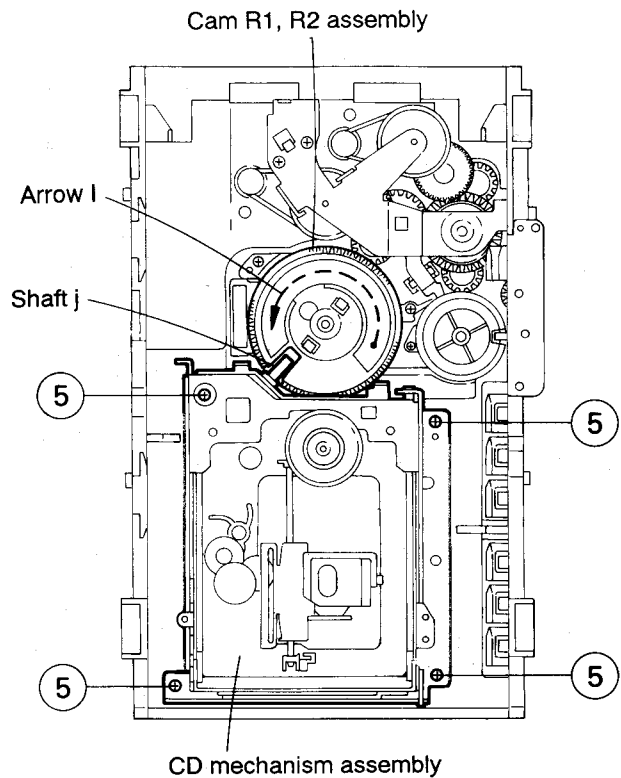

Fig. 5-39
Removing the CD mechanism assembly (See Fig. 5-39)
1. While turning the cams R1 and R2 assembly in the arrow direction (I), align the shaft (J) of the CD mechanism assembly to the position shown in Fig. 5-39.
2. Remove the four screws (5) retaining the CD mechanism assembly (See Fig. 5-39).